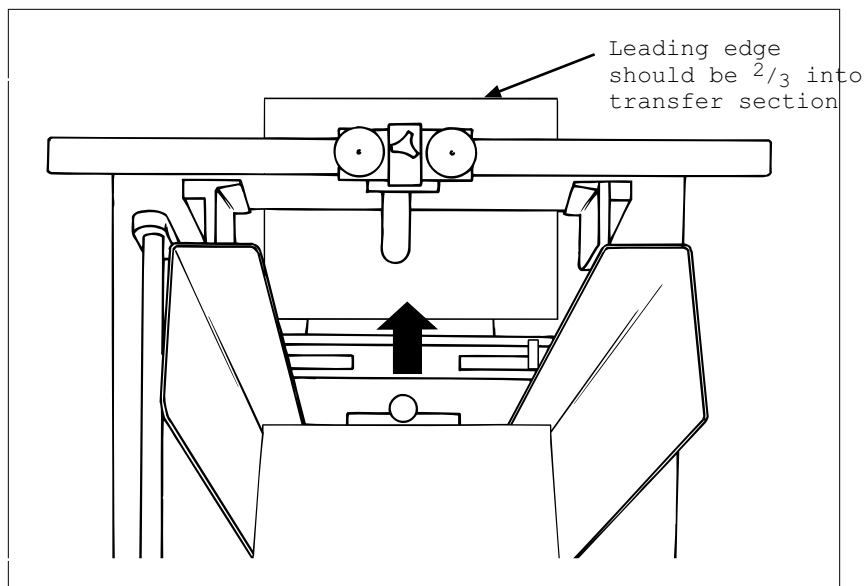

Figure 2-7. Checking for Proper Material Discharge from Feeder to Vacuum Base
2. Insert a piece of material under the hold-down in such a way that approximately 2/3 of the leading edge is extending out beyond the feeder (Figure 2-7).